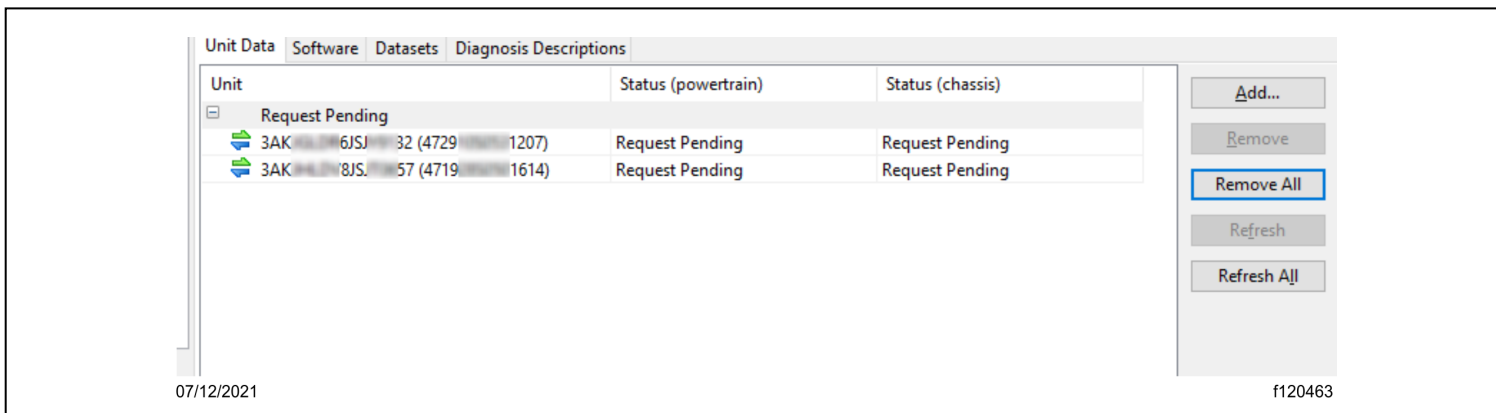

Fig. 2, Selecting Program Device in DiagnosticLink
5. If there are any items in the section 'Request Pending' downloads, they must be removed. To remove them, select each 'Request Pending' list item, then select 'Remove.' See Fig. 2 .